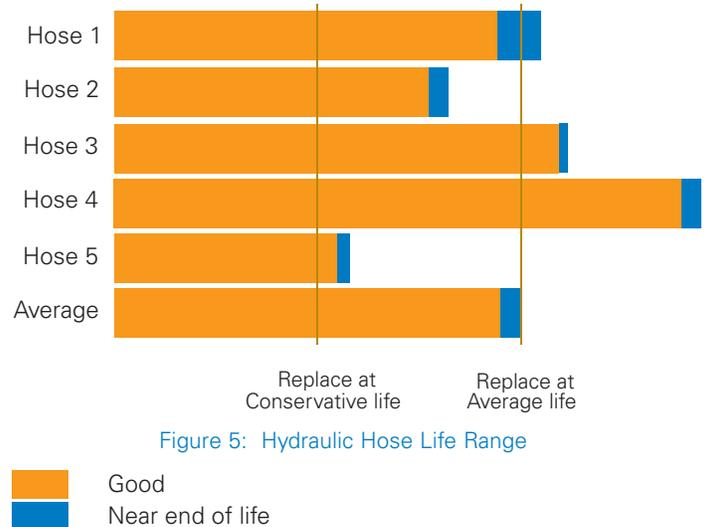

Figure 5: Hydraulic Hose Life Range
The Mean Time to Failure (MTTF) of a component can vary widely based on the duty cycle, installation of the product, environment and robustness of the product. If one chooses to replace a component every 3 years, there is no guarantee that the product will last 3 years. Alternately, that particular component may last six years – meaning that the component was replaced when it had 50 percent of its useful life left. Figure 5 is an example of a hydraulic hose and how the MTTF can vary. With this range of performance, it is difficult to determine the exact interval at which hydraulic hose should be replaced without (1) discarding a good hose or (2) without preventing a failure from occurring.